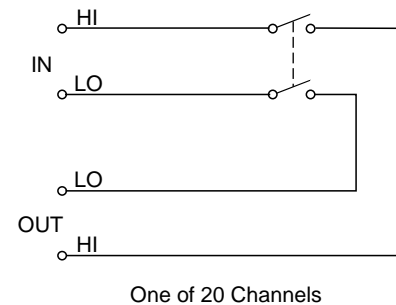

Figure 2-1
A simplified schematic of the Model 7013 switch card is shown in Figure 2-1. The card consists of 20 independent channels. Each channel is made up of a double-pole single-throw (DPST), normally open (NO) switch.